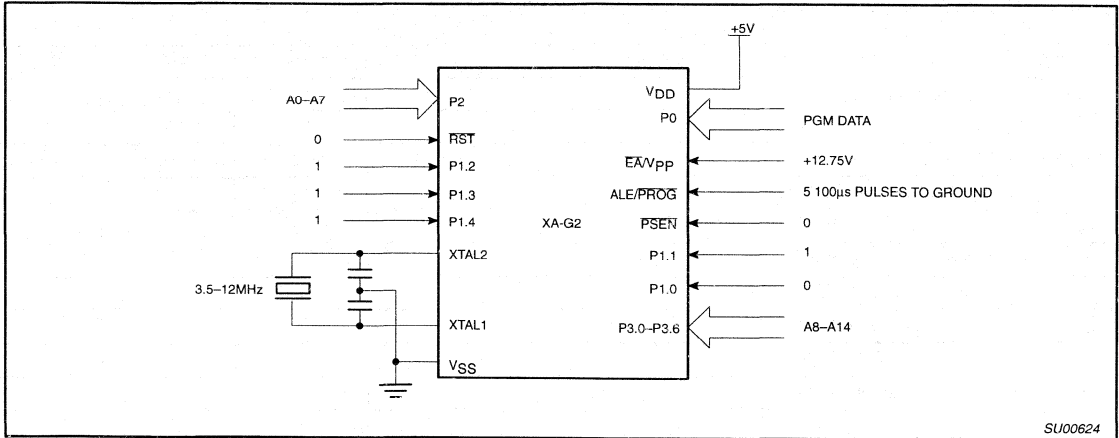
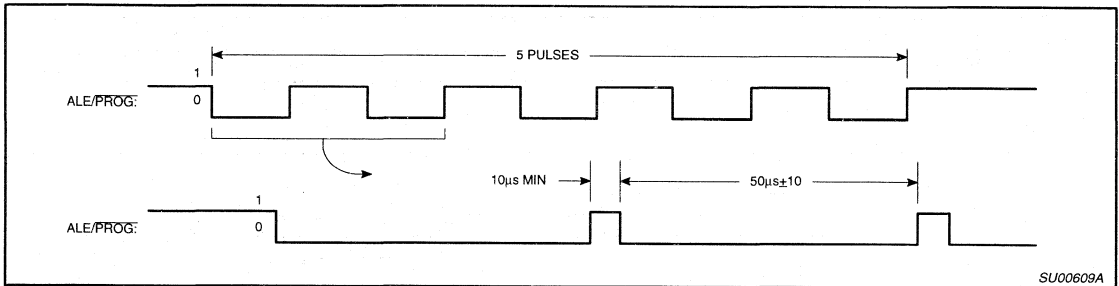
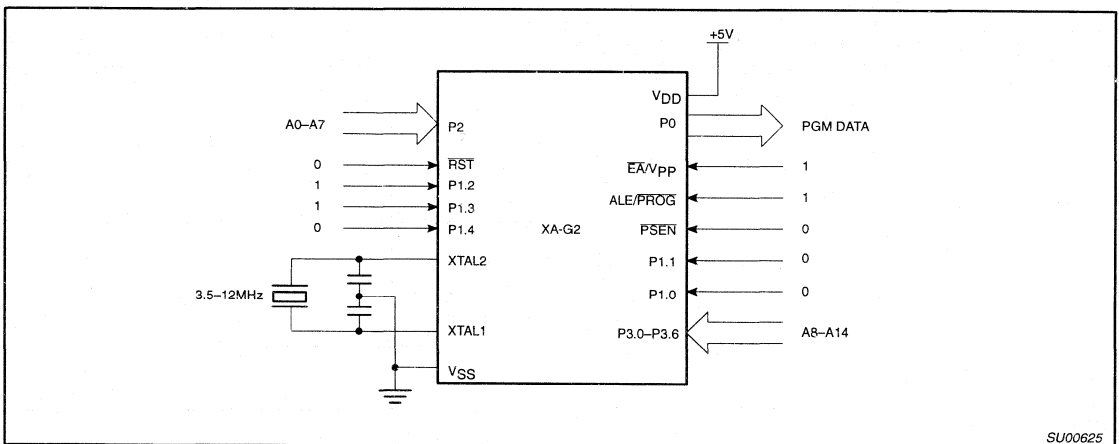

Figure 31. Programming Configuration for XA-G2
Figure 32. PROG Waveform
Figure 33. Program Verification for XA-G2
Table 6 shows the logic levels for reading the signature byte, and for programming the code memory and the security bits. The circuit configuration and waveforms for quick-pulse programming are shown in Figure 31. Figure 33 shows the circuit configuration for normal code memory verification.
The setup for microcontroller quick-pulse programming is shown in Figure 31. Note that the XA-G2 is running with a 3.5 to 12MHz oscillator. The reason the oscillator needs to be running is that the device is executing internal address and program data transfers.
The address of the EPROM location to be programmed is applied to ports 2 and 3, as shown in Figure 31. The code byte to be programmed into that location is applied to port 0. RST, PSEN and pins of port 1 specified in Table 6 are held at the 'Program Code Data' levels indicated in Table 6. The ALE/PROG is pulsed low 5 times as shown in Figure 32.
If security bits 2 and 3 have not been programmed, the on-chip program memory can be read out for program verification. The address of the program memory locations to be read is applied to ports 2 and 3 as shown in Figure 33. The other pins are held at the 'Verify Code Data' levels indicated in Table 6. The contents of the address location will be emitted on port 0.
* FOR PROGRAMMING CONDITIONS SEE FIGURE 32.
FOR VERIFICATION CONDITIONS SEE FIGURE 33.